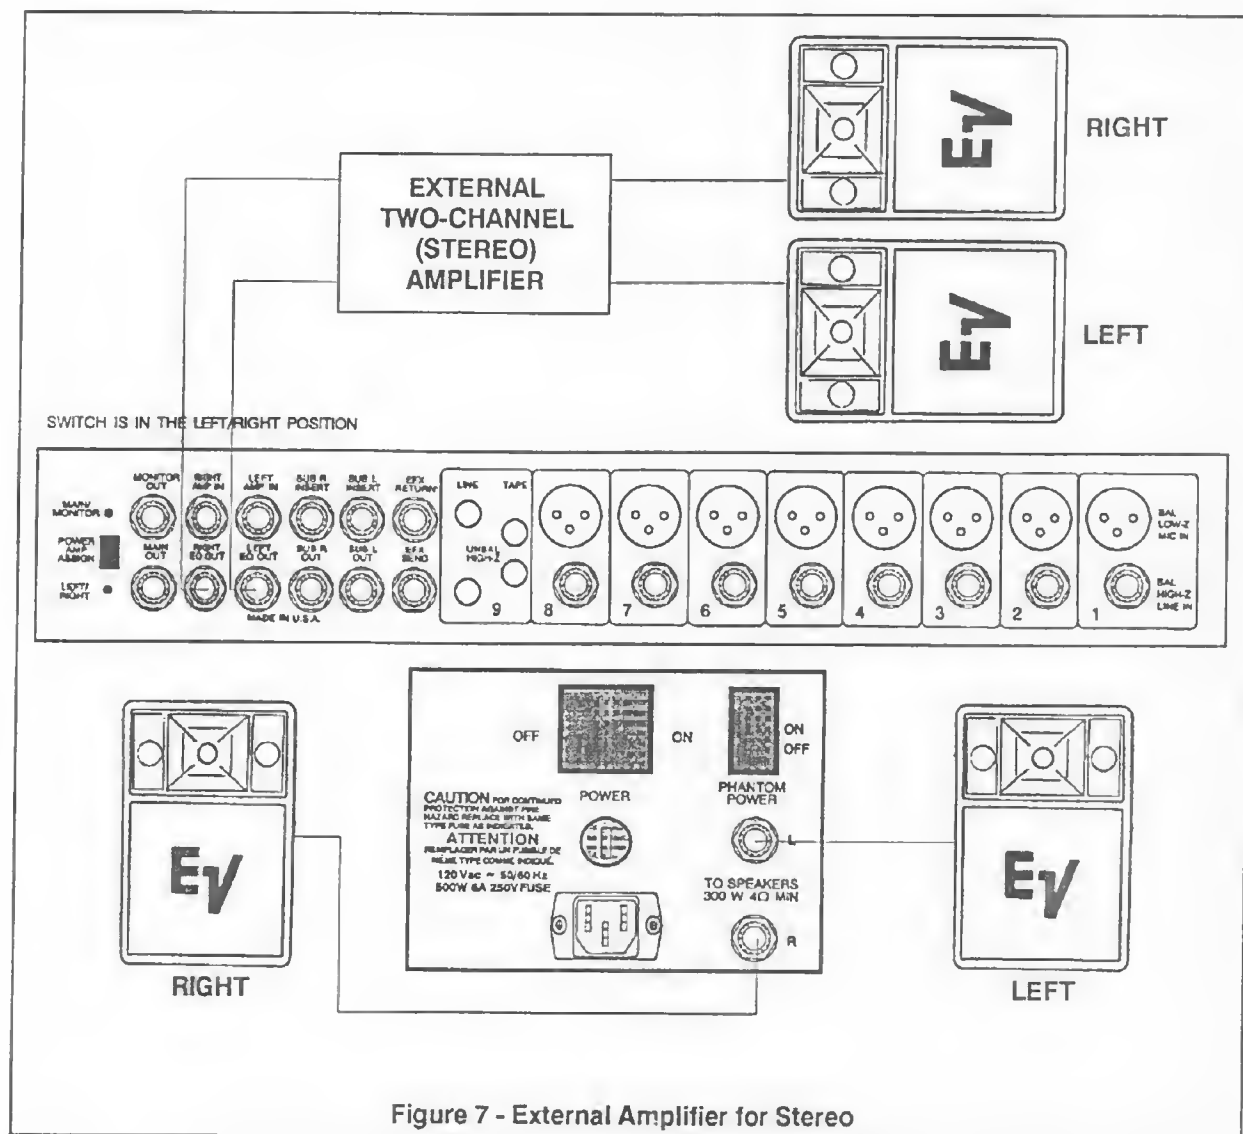

Figure 7 - External Amplifier for Stereo
2. Driving an external amplifier for a stereo system (Left/Right mode). See Figure 7.